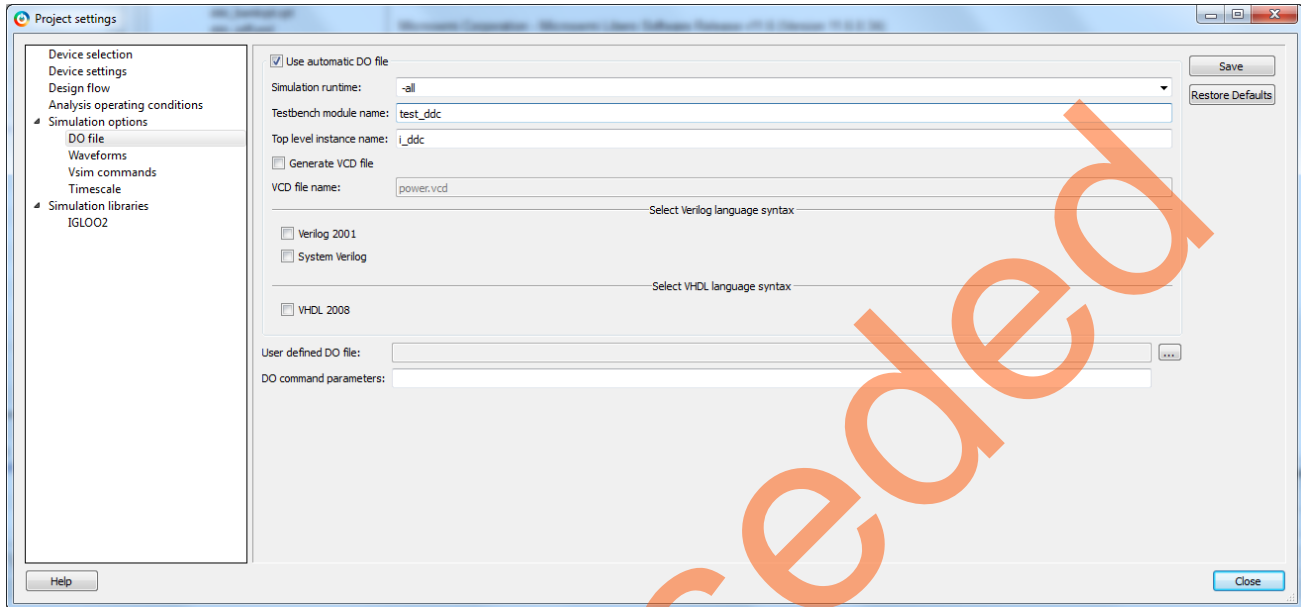

Figure 24. Project Settings – Simulation Options Dialog Box
4. In the **Project** menu, select **Project Settings** to open the **Project Settings** dialog box, as shown in Figure 24.